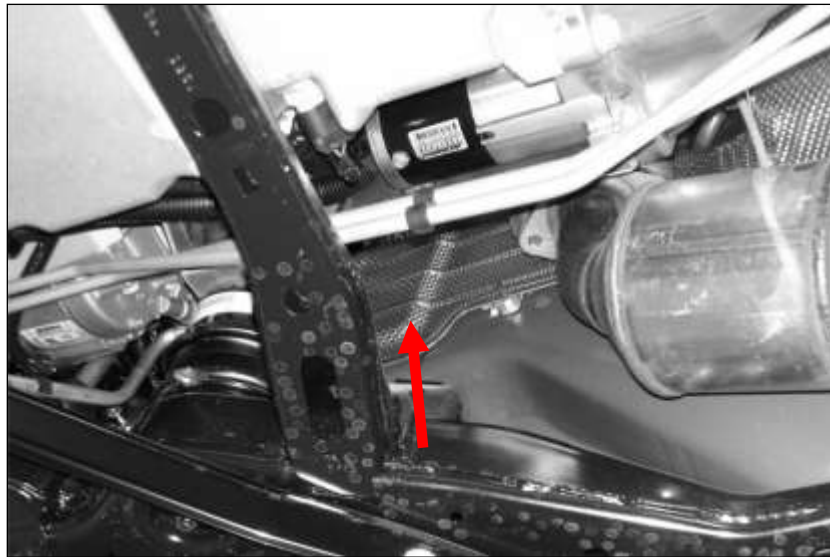

Figure 2: Stud to be cut down
9. Raise the car back up again, and cut off the end of the stud sticking out on the PS where the header will sit (leave the nut on) to allow additional clearance. See Figure 2.